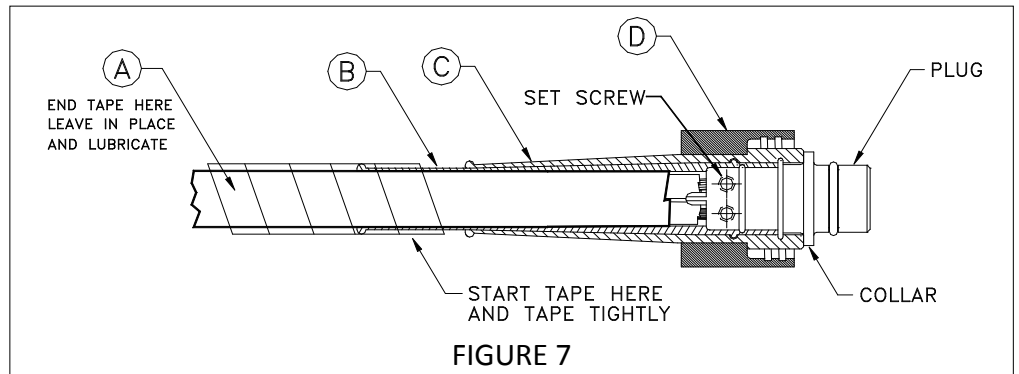

FIGURE 7
- 2.9 Slide the Inner Cable Boot (B) over the plug until it is flush with the first step on the collar (Fig. 7).
- 2.13 Slide the Outer Cable Boot (C) over the Inner Cable Boot (B) until it is flush with the second step on the collar (Fig. 7).